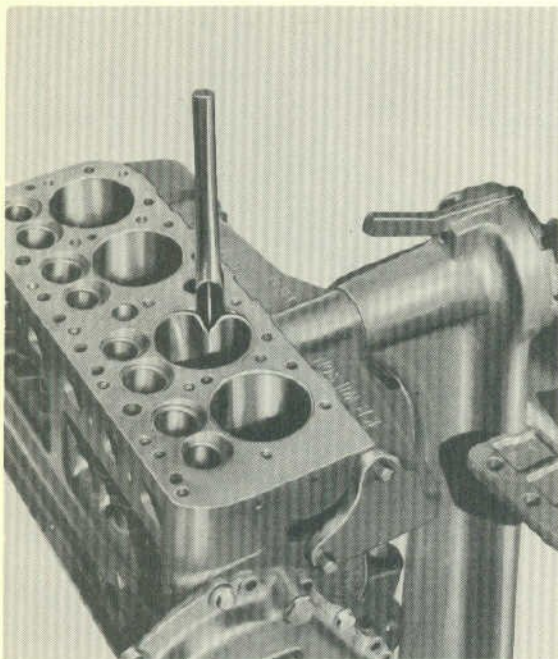

Fig. 7
- Complete the separation of the sleeve from the cylinder wall as shown in Figure 7.